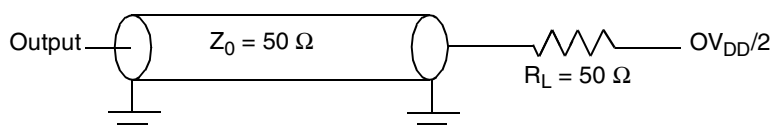
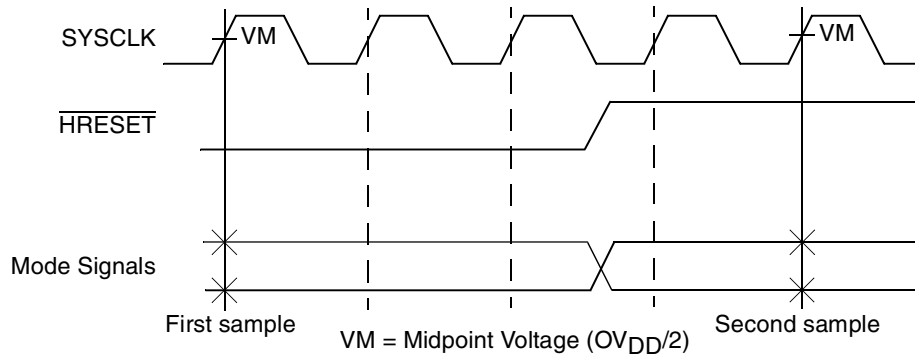

Figure 4. AC Test Load
Figure 5. Mode Input Timing Diagram
Table 8 provides the processor bus AC timing specifications for the MPC7410 as defined in Figure 4 and Figure 5. Timing specifications for the L2 bus are provided in Section 4.2.3, “L2 Clock AC Specifications.”
- All input specifications are measured from the midpoint of the signal in question to the midpoint of the rising edge of the input SYSCLK. All output specifications are measured from the midpoint of the rising edge of SYSCLK to the midpoint of the signal in question. All output timings assume a purely resistive 50-Ω load (see Figure 4). Input and output timings are measured at the pin; time-of-flight delays must be added for trace lengths, vias, and connectors in the system.
- The symbology used for timing specifications herein follows the pattern of $t_{(\text{signal})(\text{state})(\text{reference})(\text{state})}$ for inputs and $t_{(\text{reference})(\text{state})(\text{signal})(\text{state})}$ for outputs. For example, t_{VKH} symbolizes the time input signals (I) reach the valid state (V) relative to the SYSCLK reference (K) going to the high (H) state or input setup time. And t_{KHOV} symbolizes the time from SYSCLK(K) going high (H) until outputs (O) are valid (V) or output valid time. Input hold time can be read as the time that the input signal (I) went invalid (X) with respect to the rising clock edge (KH)— note the position of the reference and its state for inputs—and output hold time can be read as the time from the rising edge (KH) until the output went invalid (OX).
- Includes mode select signals: BVSEL, EMODE, L2VSEL. See Figure 5 for mode select timing with respect to $\overline{\text{HRESET}}$.
Figure 4 provides the AC test load for the MPC7410.
Figure 5 provides the mode select input timing diagram for the MPC7410. The mode select inputs are sampled twice, once before and once after HRESET negation.